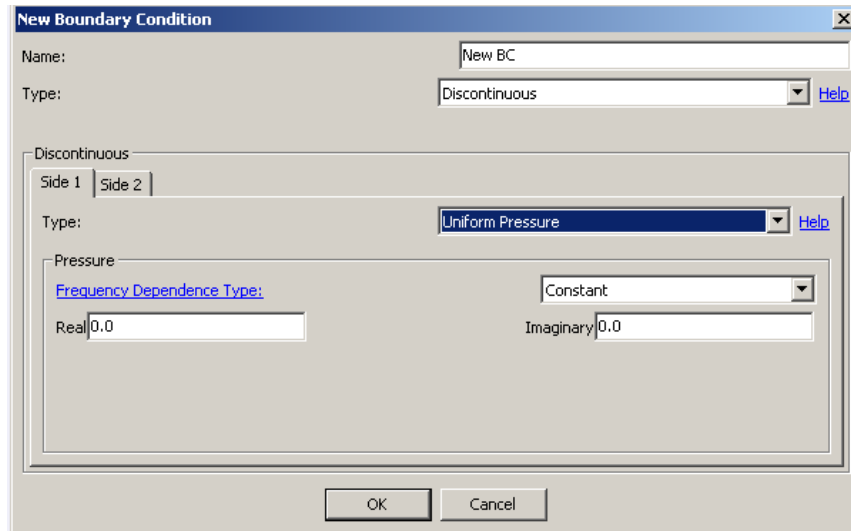

Figure 6.36 Discontinuous Uniform Pressure
6.6.10.2. Uniform Pressure This Boundary Condition is applied on the side of the element where the pressure is uniformly distributed. That is, there is no variation of pressure with position. The pressure values can be specified by selecting any of the frequency dependence types: *Constant*, *Table*, or *Script*. (Figure 6.36)